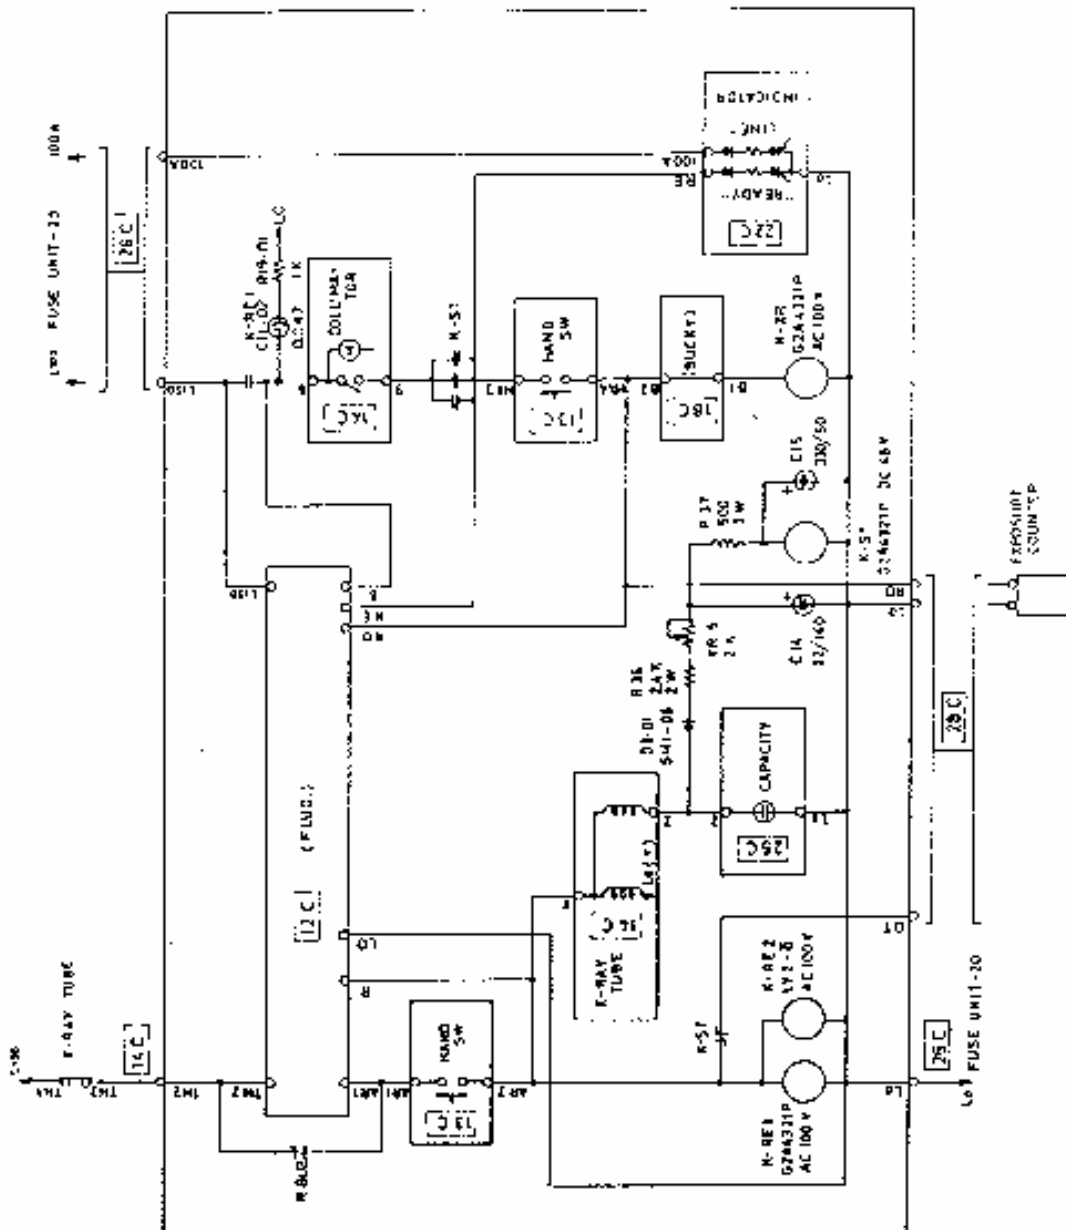

Fig. 3-6-1
- (1) Figure 3-6-1 is the connection diagram of this circuit.